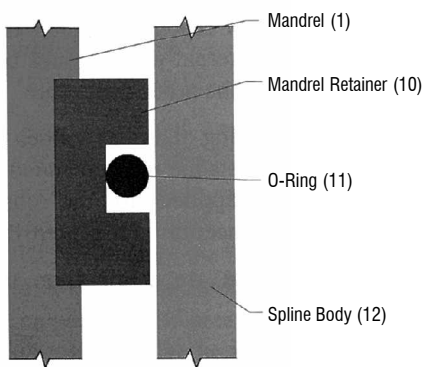

Figure 7.4
1. Clamp the Mandrel (1) securely into an appropriate vise for assembly.
2. Lightly lubricate the Mandrel and slide the Mandrel Body (2) onto the Mandrel.
3. Install the Mandrel Retainer (10) and the Mandrel Retainer O-ring (11), which holds it in position, onto the Mandrel (1). Refer to Figure 7.4.